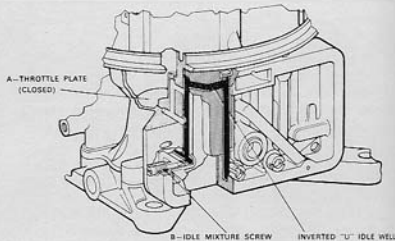

Fig. 4A
2. **IDLE AND METERING SYSTEMS**—Figures 4A and 4B show the center and one outboard carburetor idle system. The primary idle system in the center carburetor is an inverted "U" system shown by callouts. With primary throttle plates (A) in the idle position, idle discharge passages below the throttle plates permit fuel to enter the airstream. Idle adjusting needles (B—only one is shown) control the amount of fuel.